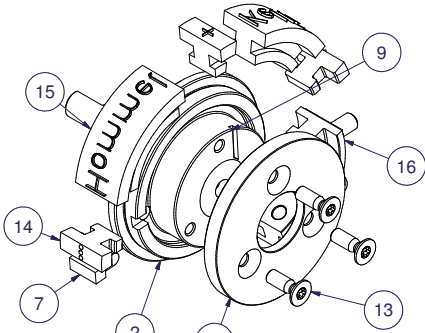

Figure 6: Installation of the segments
In order to be able to install the marking segments, the countersunk screws (Fig. 6, pos. 13) and the segment cover (Fig. 6, pos. 3) must be completely removed. Then, insert the end-segment (Fig. 6, pos. 7) with the pin first into the groove of the segment receptacle (Fig. 6, pos. 2). The start segment (Fig. 6, pos. 14) is joined and attached to the segment stop. Then, the segments (Fig. 6, pos. 15) and the end-segment (Fig. 6, pos. 16) follow. **Do not screw down the end segment for the time being.** Then, the segment cover can be re-installed on the segment receptacle and fastened gently with the countersunk screws.
Press segments and end-segment (Fig. 6, pos. 15 and 16) flushly against the segment stop (Fig. 6, pos. 7). In the process, the individual segments must align without gaps. As an additional clamping means, tighten the three threaded pins of the end segment (Fig. 6, pos. 16) and tighten the countersunk screws (Fig. 6, pos. 13) for clamping of the segment cover (Fig. 6, pos. 3).